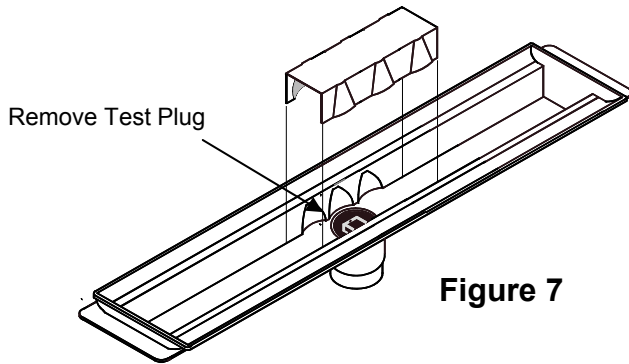

Figure 7
11. The Channel Drain is now ready to be pressurized prior to shotcrete or gunite. A test plug is already installed (see Figure 7).
18. Remove the test plug from the bottom of the Channel Drain and glue in the Safety Shield with the supplied packet of glue (see Figures 7 and 8).